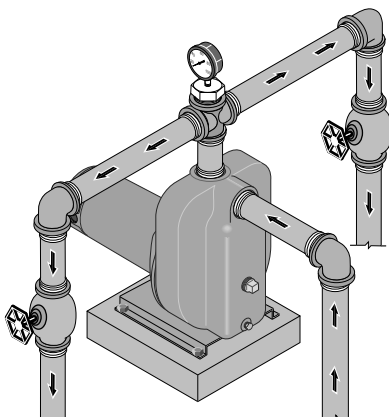

Figure 7 - Multiple Discharge
Pump discharge can be divided to supply two (2) or more sprinkler systems. A suggested multiple discharge to service is shown in Figure 7.